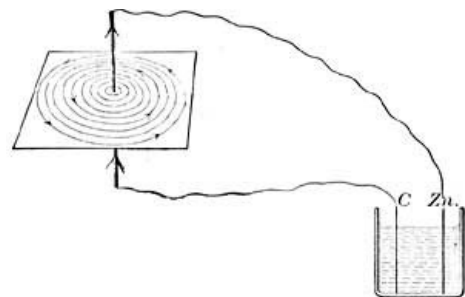

FIG. 227.—A wire through which current flows is surrounded by a field of magnetic force.
*d*. If a wire is passed through a card and a strong current is sent through the wire, iron filings will, when sprinkled upon the card, arrange themselves in definite directions (Fig. 227). A wire carrying a current is surrounded by a magnetic field of force.